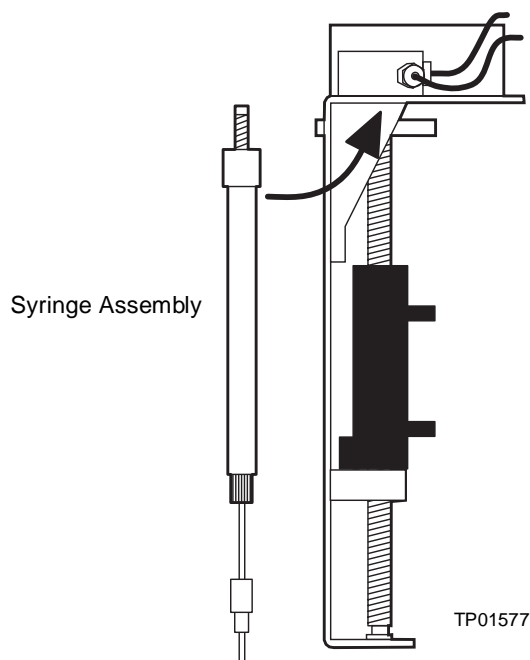

Figure 7-12 Installing the Syringe
2. Screw the new syringe partially into the mounting bracket (Figure 7-12). Do not tighten.